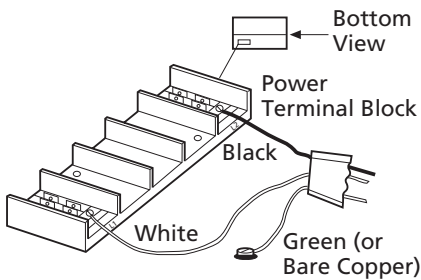

Figure 7
3. Connect the wire to the power block located in the base of the heater (see Figure 7).